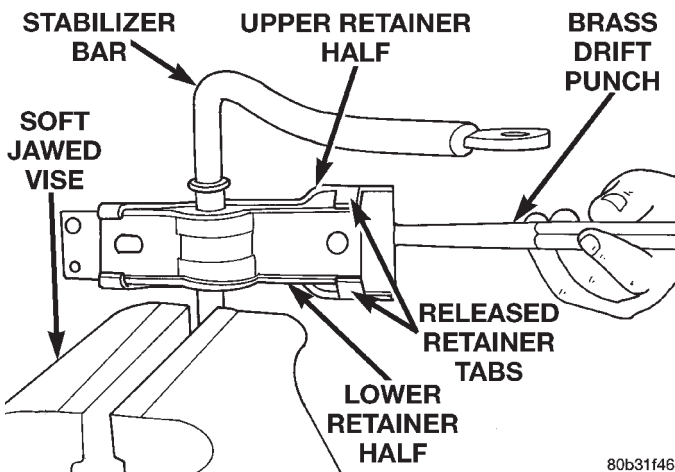

Fig. 35 Bushing Retainer Removal
(5) Mount the stabilizer bar in a soft jawed vise with one of the two bushings mount just above the vise jaws.
(6) Carefully pry back the retainer tabs on the wider end of the upper bushing retainer away from the lower half.
(7) Using a hammer and a brass drift punch, tap the upper half of the bushing retainer assembly forward, off of the lower half and bushing (Fig. 35).